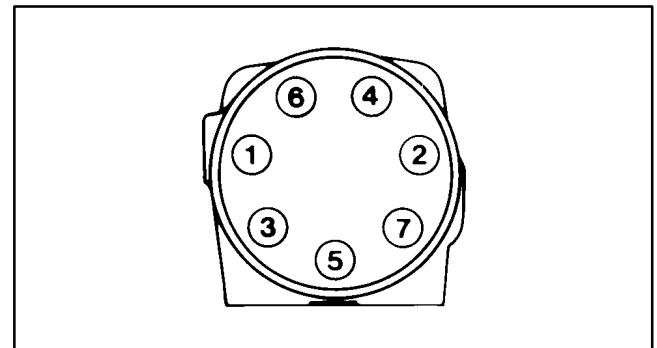

Figure 49
26. Install 7 dry cap screws with new seal washers in end cap. Pre-tighten screws to 150 inch pounds, then torque screws to 275 inch pounds in sequence shown in Fig. 49.